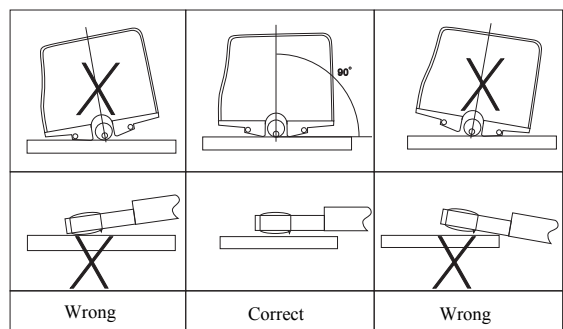

Figure 4-1
- H. Place the device according to Figure 4-1, 4-2, and ensure that cables are correctly and reliably connected.